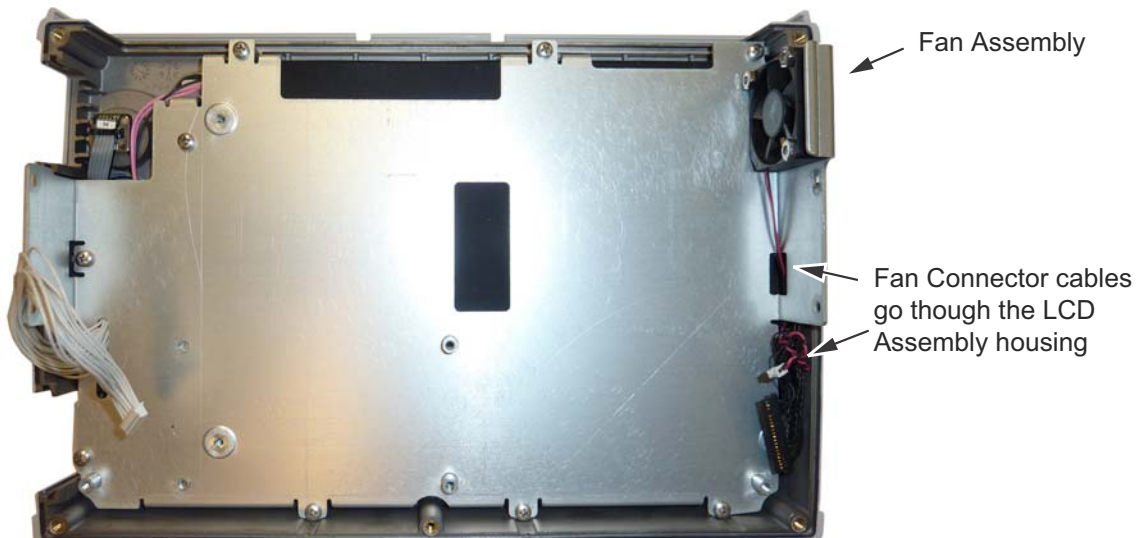

Figure 7-9. Front Panel Keypad Bezel
3. Remove the 3 screws and nuts holding the Fan Assembly to the LCD Assembly housing. Refer to (Figure 7-9).